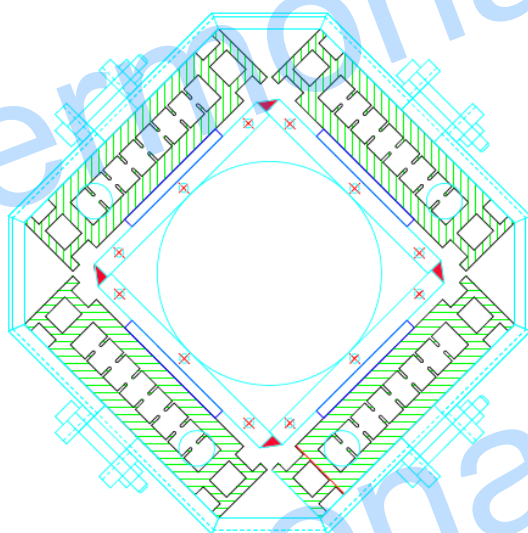

Figure 4 The Installed direction of the TEG generator
4. Installed direction for this generator as the Figure 4 and give a right water inlet and outlet direction as instruction on the body.